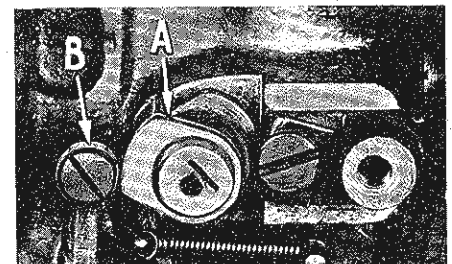

Fig. 16
To accomplish this setting turn handwheel in operating direction until needle is on the down stroke on the left side and the point of needle is approximately $1/32$ inch from the center of lining plunger. Now, loosen screws in lining plunger cam (A, Fig. 16) and rotate cam in counterclockwise direction until follower roller (B) is just leaving high lobe. (Examine contact surface of cam and note high lobe; it appears as a raised flat about $1/16$ inch long). Retighten screws in the cam.